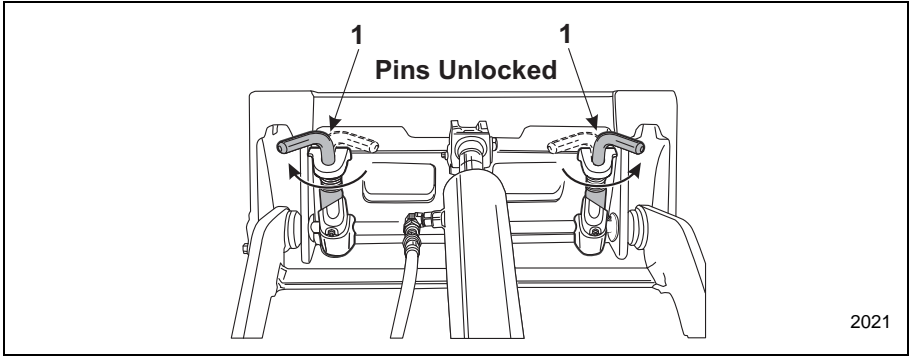

Figure 3-30 Attachment Locks in Unlocked Position
3. Rotate the attachment lock pins to the UNLOCKED position (Item 1, Figure 3-30).